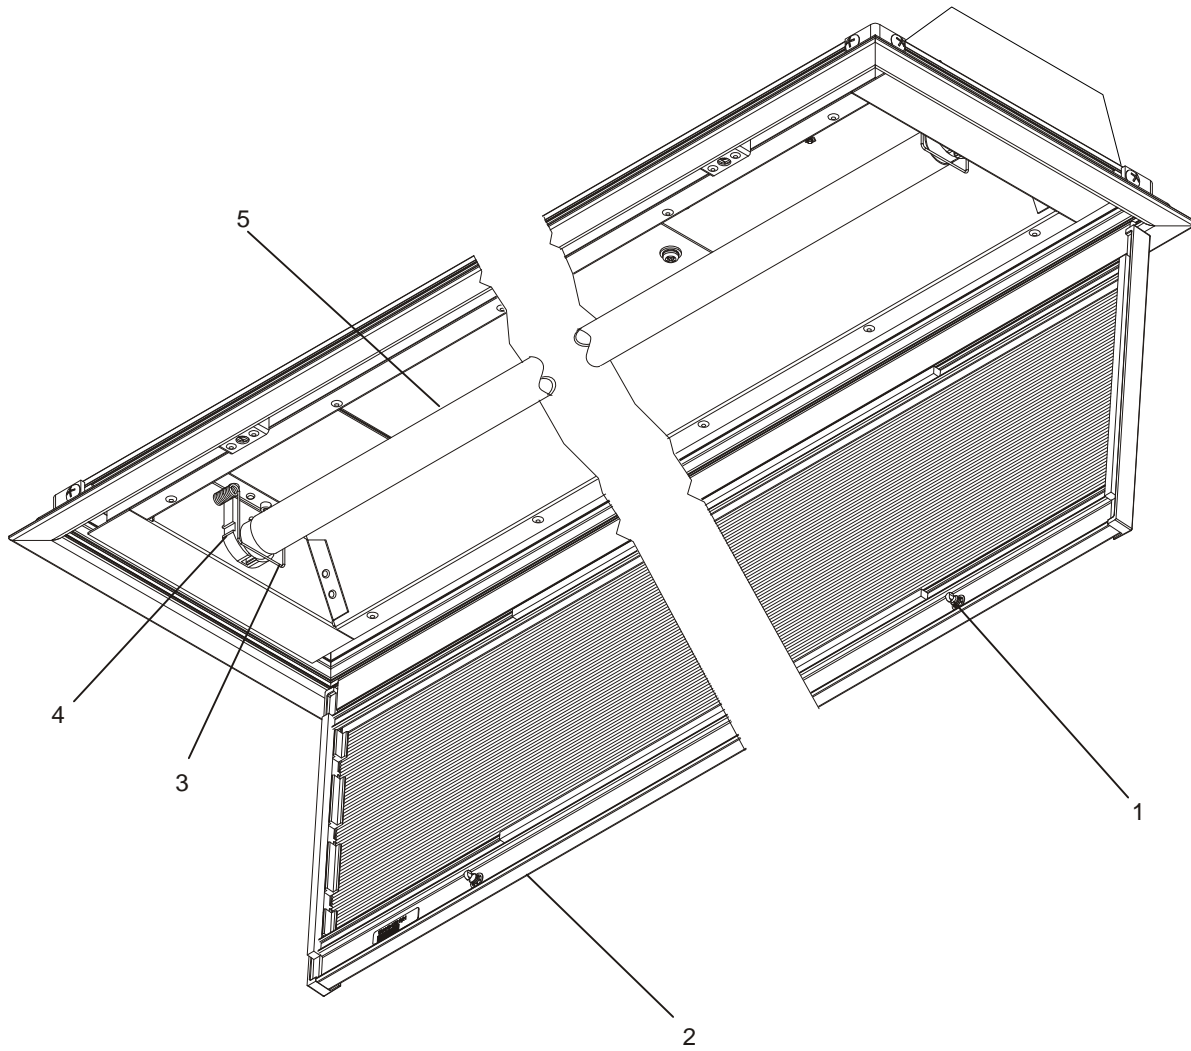

Figure 7-1: Replace Passenger Area LED Tube Lamp
2. Rotate three quarter-turn Torx head fasteners (1, Figure 7-1) one-quarter turn to the left on the lens door assembly (2).
3. Remove lamp retainer spring (3) from the socket (4) at each end of the fixture.
4. Rotate lamp tube (5) one-quarter turn and remove.
5. Install replacement lamp tube (5) and rotate one-quarter turn in the opposite direction.
6. Attach two lamp retainer springs (3).
7. Close the lens door assembly (2) and rotate three quarter-turn Torx head fasteners (1) one quarter-turn to the right.